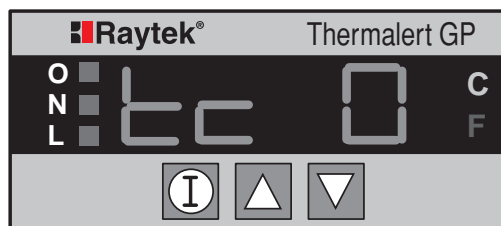

Figure 20: Thermocouple Output
2. Press the  button several times until the thermocouple output indicator displays as shown in Figure 20.